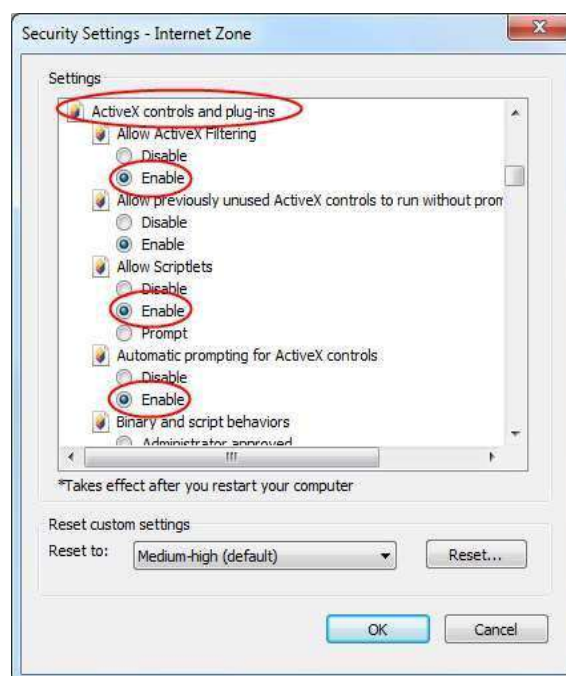

Fig 10-2
- c. Enable all the sub options under "ActiveX controls and plug-ins". Refer to Fig 10-2.